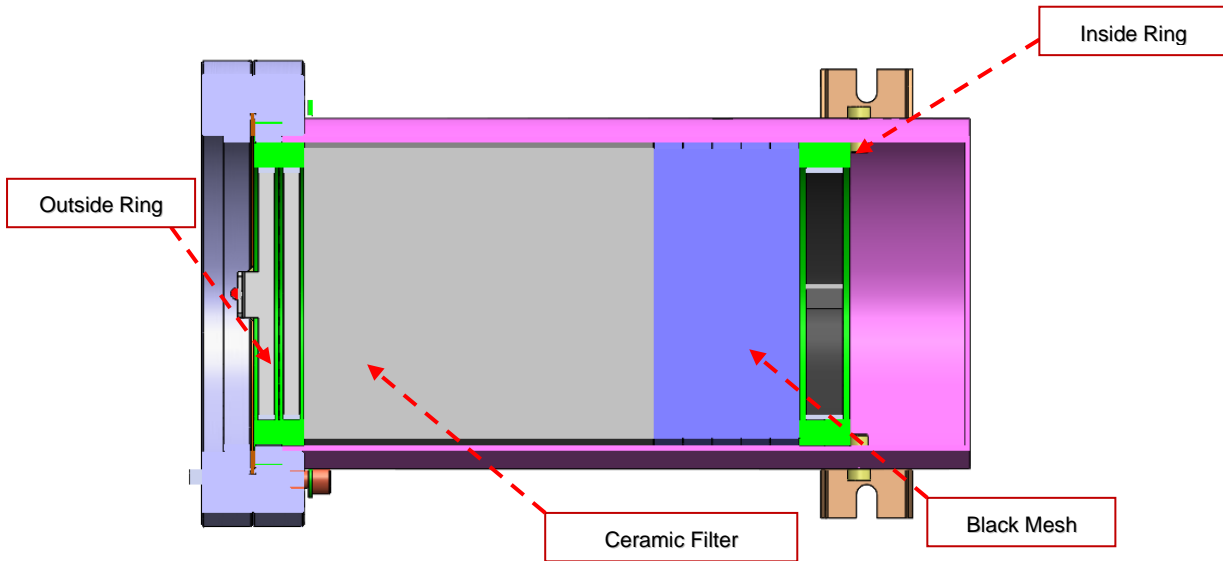

Fig 14
14. Insert new inside Ring (See Fig 14)